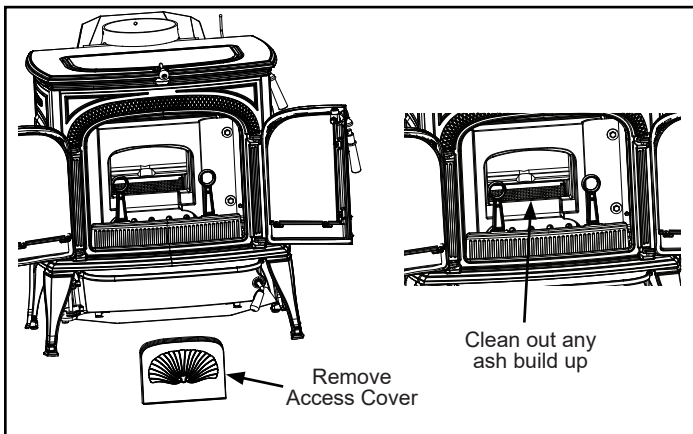

**Figure 3.6** - Inspect and clean out ash accumulation behind the combustion system.
- Inspect for and remove ash build-up behind the combustion package. This should be done in conjunction with annual cleaning of the chimney connector. Inspect the passage behind the combustion package (a mirror will be helpful) and vacuum away ash using a flexible vacuum hose inserted in the passage. (Figure 3.6)